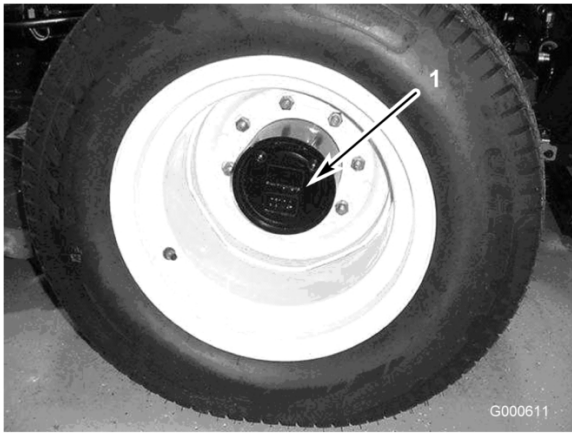

Figure 42
1. With the machine on a level surface, position the wheel so that the check/drain plug (Figure 42) is at the lowest position (6 o'clock).